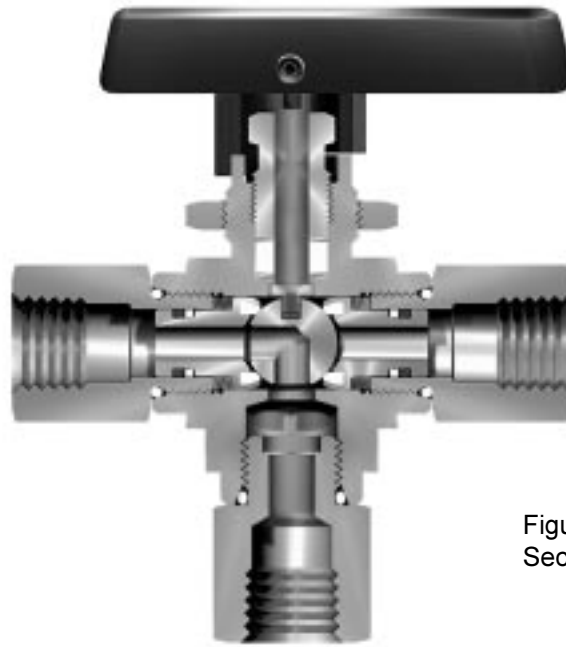

Figure 1: BXS Series Valve Cross Sectional View
2. Refer to Figures 1 thru 3, as applicable for the Valve's configuration. Place an O-Ring on each End Connector and exercise care not to damage or scratch the O-Rings.